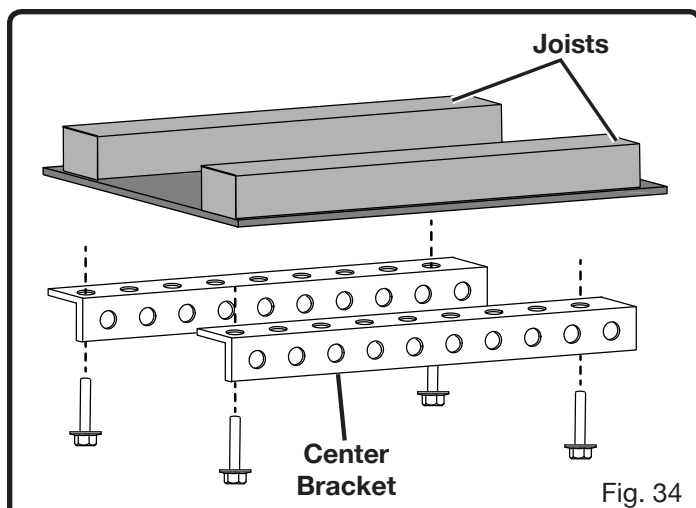

Fig. 34
**NOTE:** The proper configuration and placement of brackets and mounting straps will vary based on the design and construction of your garage ceiling. Figures 34 - 38 are meant to serve as examples but your setup may vary.